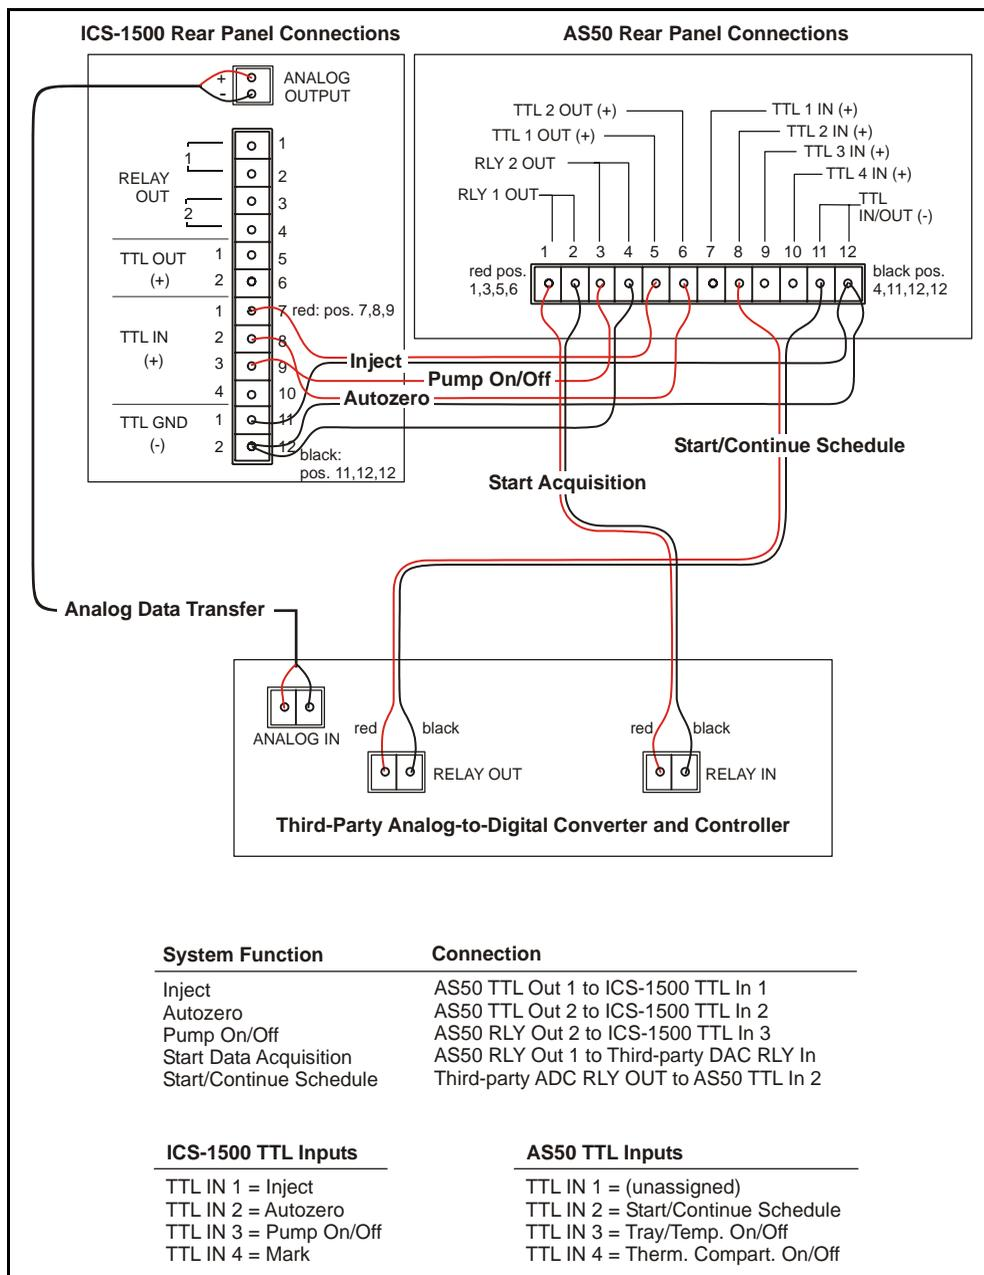

Figure D-7. Example Connections for Stand-Alone Operation
2. Attach the wires to the connector plug positions indicated in Figure D-7.
2. Connect the analog input connector on the third-party controller to the **ANALOG OUTPUT** connector on the ICS-1500 rear panel (see Figure D-7).
Figure D-11 is an example of AS or AS50 (USB) method timed events that can be used with the TTL/Relay connections shown in Figure D-7.